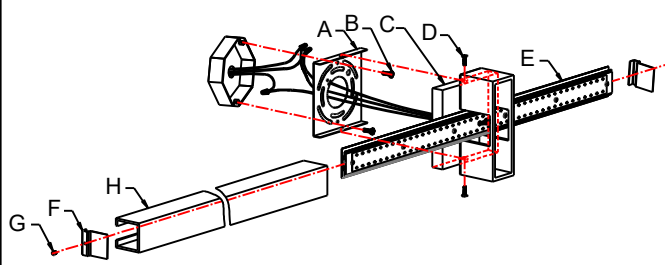

Fig. 2
### CONNECTING THE WIRES (Fig.2)
4. Connect the electrical wires as shown in Fig. 2, making sure that all wire connectors are secured. If your outlet has a ground wire (green or bare copper), connect the fixture's ground wire to it. Otherwise, connect the fixture ground wire directly to the mounting plate (A) using the green screw provided. After wires are connected, tuck them carefully inside the junction box.
5. Place the fixture's back plate (C) over the mounting plate (A) and secure with screws (D).